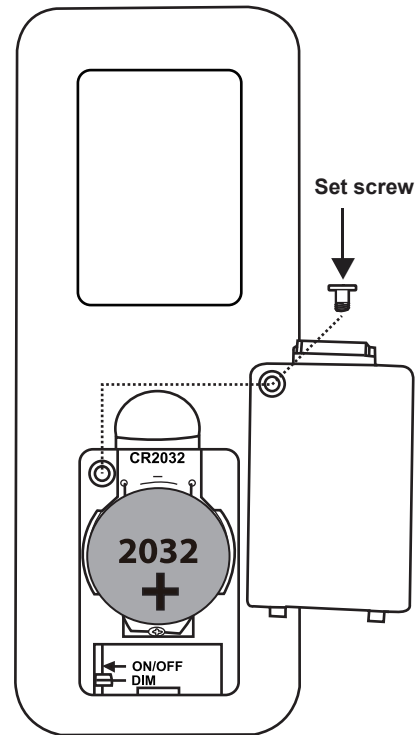

Fig. 4
Remove the set screw on the back of transmitter, take out the battery cover. Insert the 3 volt battery (included) and make sure they are seated correctly in each recess with the Positive + sign facing up. When remove or insert the batteries, use a suitable screwdriver to loosen or tighten the screws and open the back cover. (Fig. 4)
F. "DIM" and "ON/OFF" dip switch: (Fig. 4)